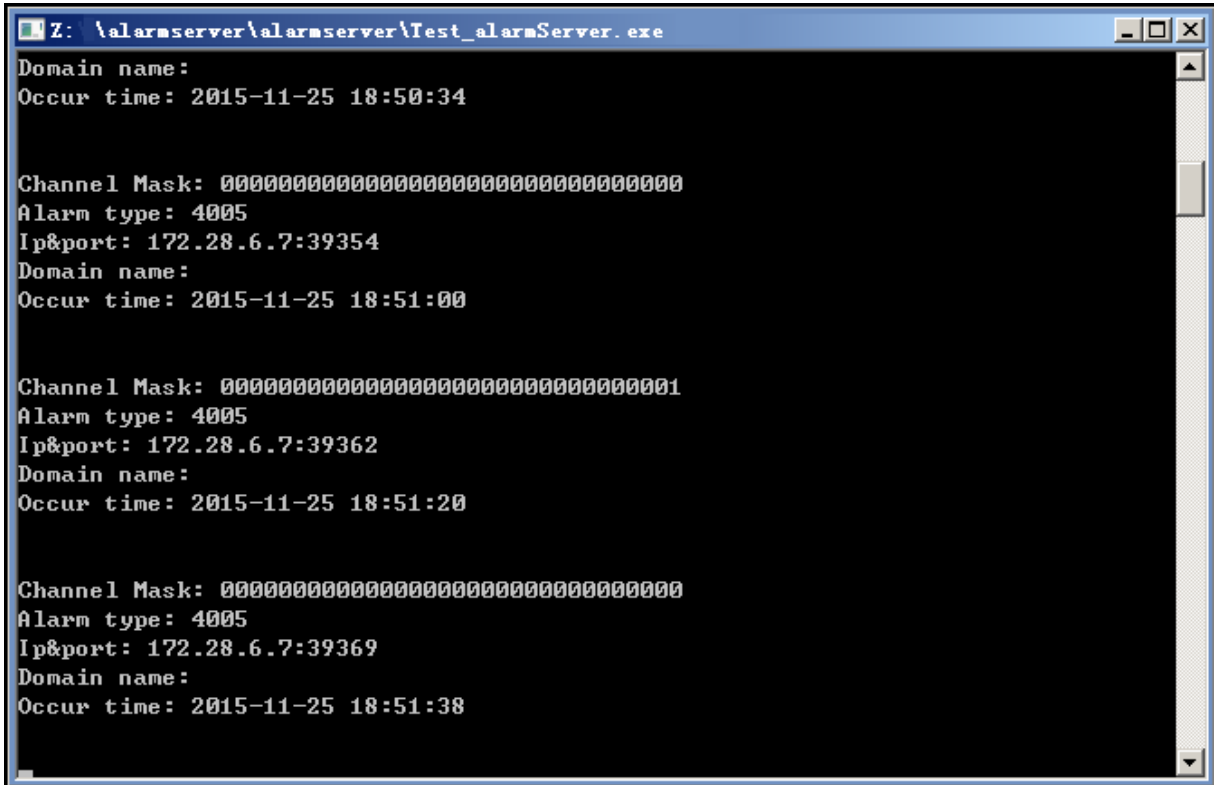

Figure 3-47
Step 3 Click “OK” to complete configuration. Open the client at alarm server, and the client will receive alarms, as shown in Figure 3-47.